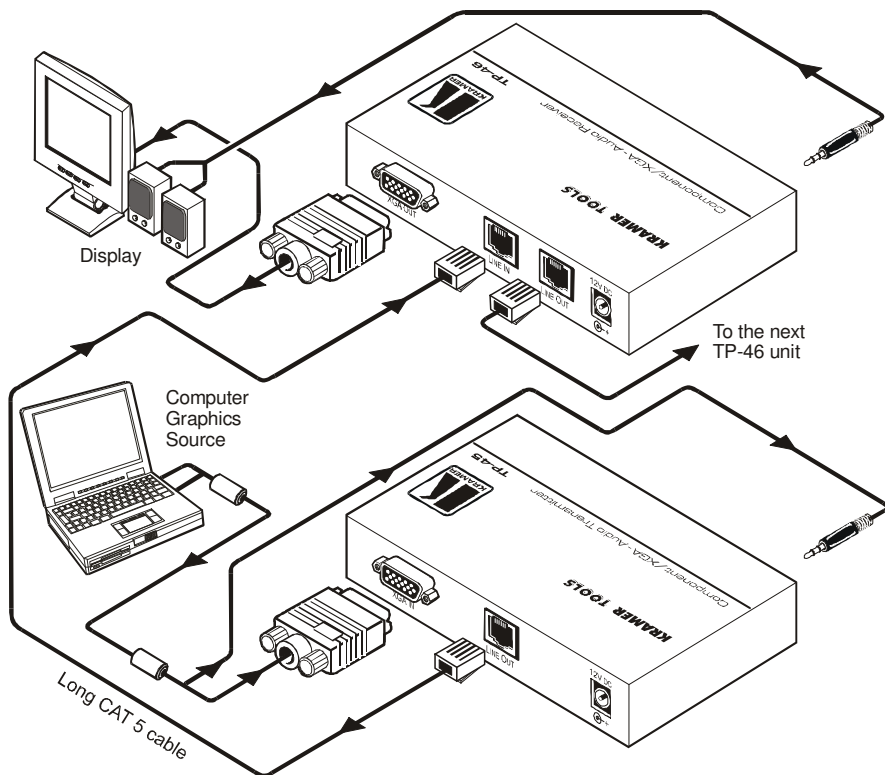

Figure 7: Component/XGA – Audio Distribution System, XGA Mode
To configure a **TP-45 / TP-46** Component/XGA – Audio distribution system⁴ in the XGA mode, as illustrated in the example in Figure 7, do the following:
6. Connect the 12V DC power adapter to the power socket and connect the adapter to the mains electricity on both² the **TP-45** and the **TP-46** (not shown in Figure 7).